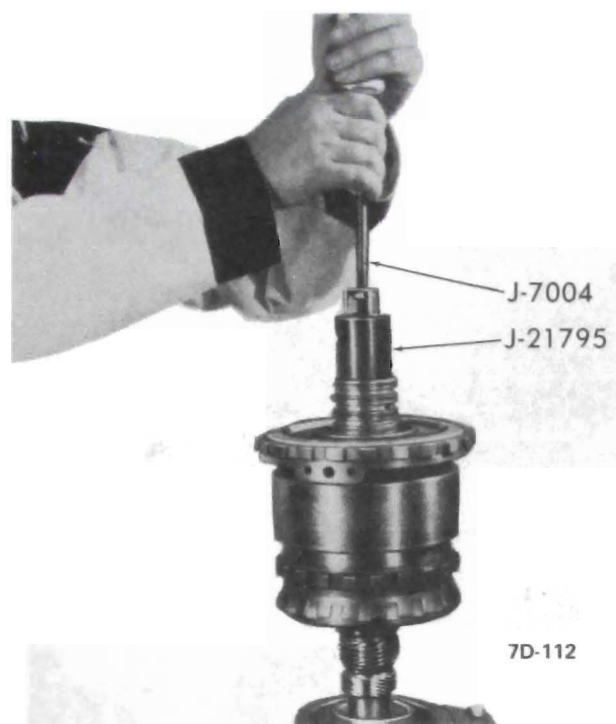

Figure 7D-112
20. Remove rear unit selective washer from the transmission case. See Figure 7D-113.